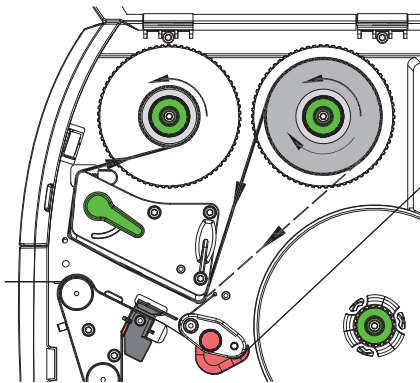

Figure 22 Transfer ribbon feed path
5. Hold transfer ribbon roll (1) firmly and turn knob on ribbon supply hub (3) counterclockwise until the transfer ribbon roll is secured.
6. Slide suitable transfer ribbon core (4) onto the transfer ribbon take-up hub (5) and secure it in the same way.
7. Guide transfer ribbon through the print unit as shown in Figure 22.
8. Secure starting end of transfer ribbon to the transfer ribbon core (4) with adhesive tape. Ensure counterclockwise rotation direction of the transfer ribbon take-up hub here.
9. Turn transfer ribbon take-up hub (5) counterclockwise to smooth out the feed path of the transfer ribbon.
10. Turn lever (6) clockwise to lock the printhead.